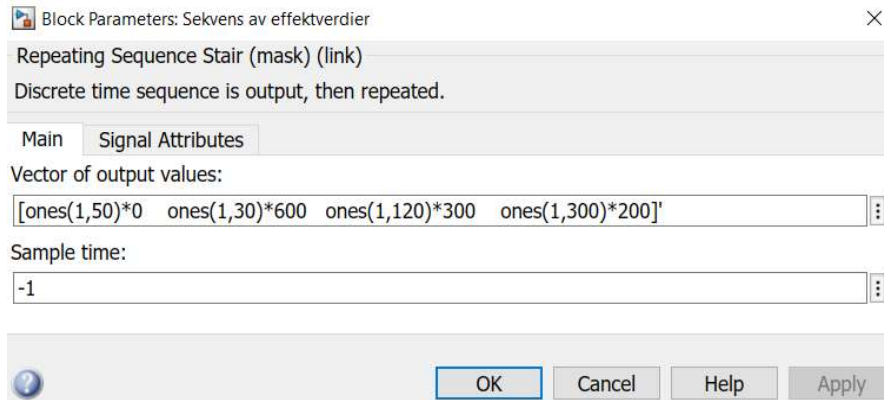

Figure 5.3: Parameterization of the hob input.
As a chef, how would you get the hob to achieve a temperature of 120°C as soon as possible (without overshoot)? The hob can be turned up to power 6, i.e., 600 W. To find out this, double-click on the Switch so that you use the block `Sekvens av effektverdier` (this is a Source block called Repeating Sequence Stair). By double-clicking on the block you get the window shown in Fig. 5.3.
In Fig. 5.3, 0 W is used for the first 50 seconds, followed by 600 W for 30 seconds, then 300 W for 120 seconds and finally 200 W for 300 seconds. Make sure that the sum of the lengths of the ones is the same as the simulation time (500), e.g., $50+30+120+300 = 500$. Always use 0 W in the first 50 seconds so that the first step input happens at 50 seconds.